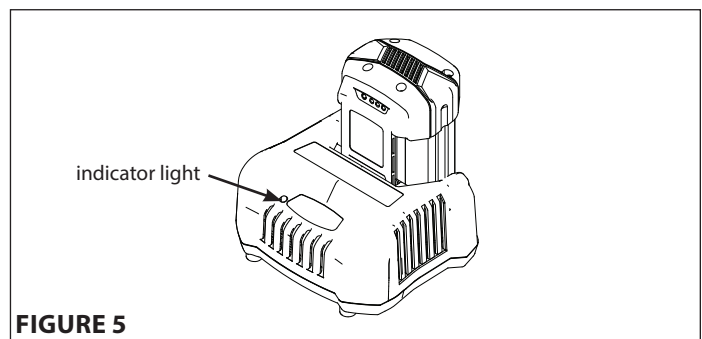

FIGURE 5
5. The charge indicator light should blink green. **SEE FIGURE 5**